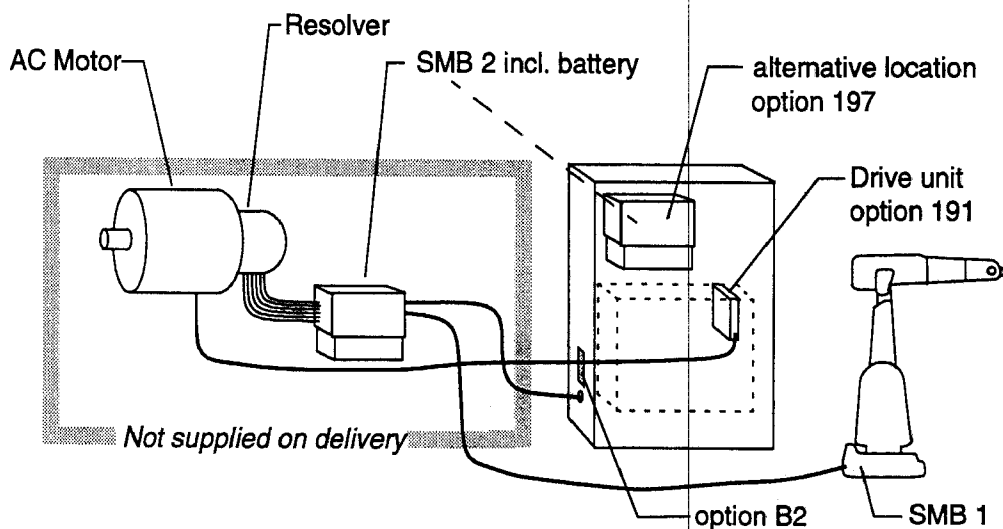

Figure 38 External axes with an internal drive unit (option 191).
- an AC motor (IRB motor type or similar) controlled via a drive unit mounted in the cabinet, with the maximum of one drive unit, (see Figure 38) or